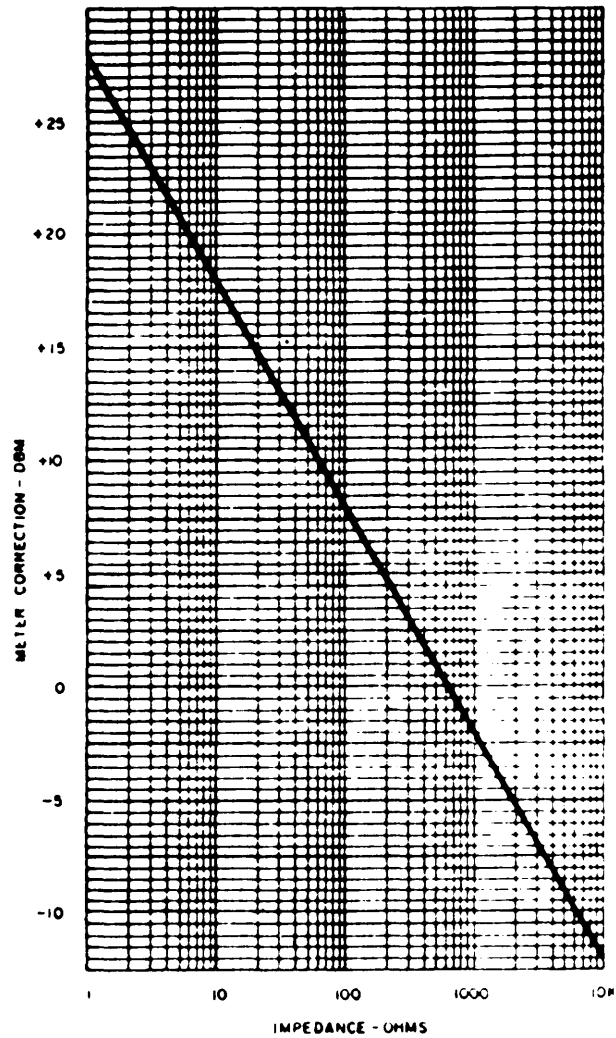

Figure 11. Impedance correction graph.
f. To compute dbm signal level on transmission lines having impedances other than 600 ohms, use the impedance correction graph (fig. 11) to convert the voltmeter db indication to dbm. Locate the transmission line impedance at the bottom of the graph and follow that impedance line up to the diagonal line. The dbm level is the algebraic sum of the level indicated on the meter and the correction shown on the graph. For example: If the indication on the DECIBELS scale is +2, the RANGE selector switch is in the +30 position, and the measurement is made across an impedance of 135 ohms, the corrected level is +39 dbm and is obtained as follows: